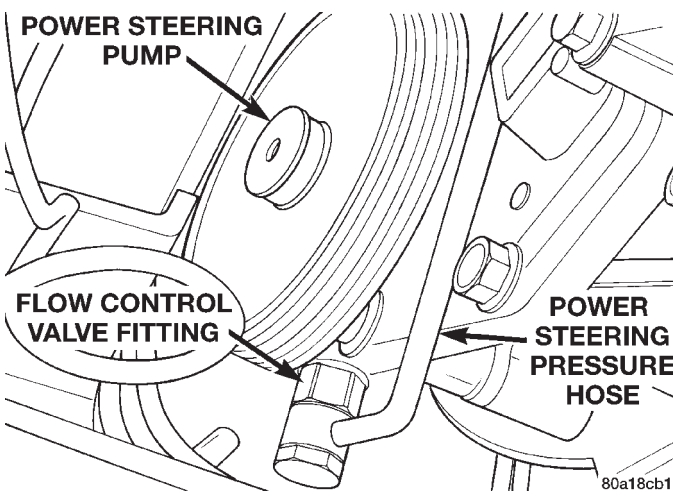

Fig. 4 Power Steering Pump Pressure Hose
(1) Check power steering pump drive belt tension and adjust as necessary.
(2) Disconnect power steering fluid pressure hose (Fig. 4), at power steering pump. Use a container for dripping fluid.